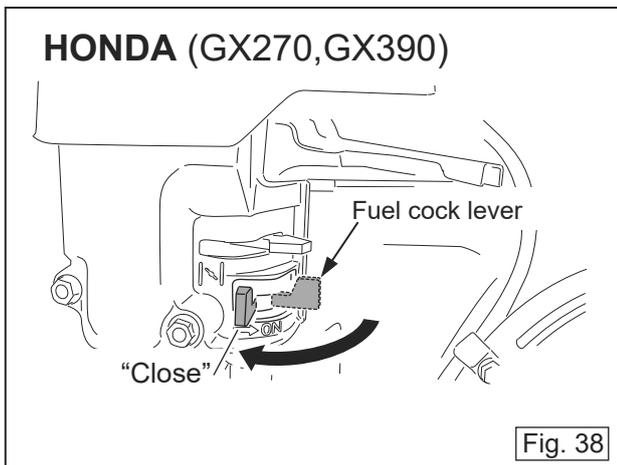

Fig. 38
- 4 Shut the fuel cock. (Fig. 38)